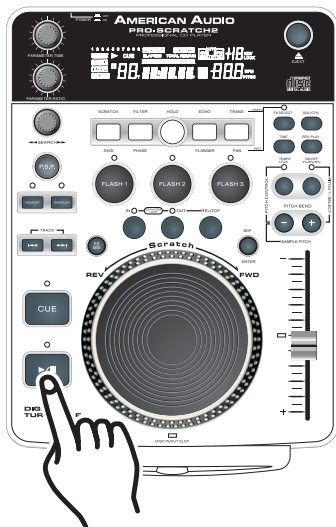

Figure 31
- 1) Press the *PLAY/PAUSE BUTTON* (15) so music is playing (Figure 31).